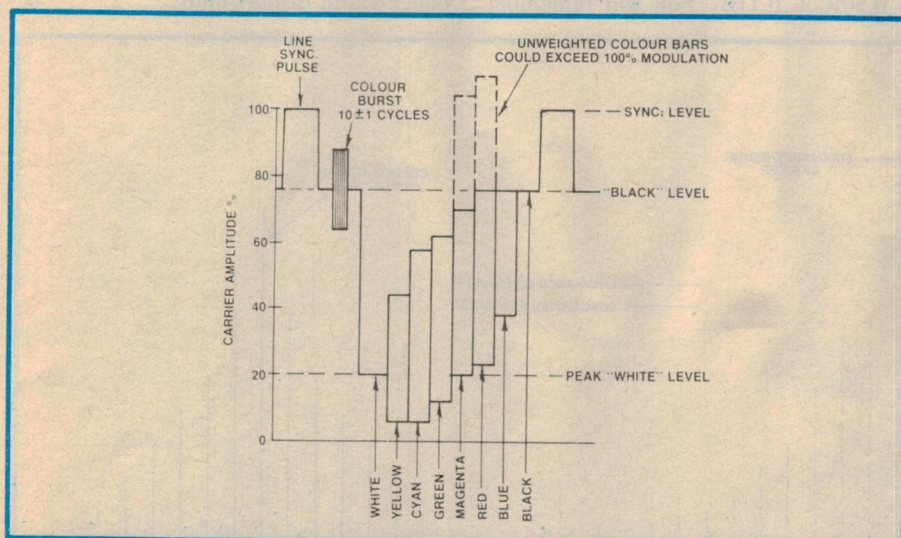

Fig. 8: the video signal waveform generated by a standard colour bar chart. Note the colour burst signal on the back porch of the line sync pulse.
Notice that the signal at output (1) is 0.877 multiplied by the (R-Y) signal, and the signal at output (2) is 0.493 multiplied by (B-Y). This "weighting" of the colour signals is necessary to prevent overloading the transmitter. Without weighting, the peak colour signals would exceed 100% modulation and cause distortion (Fig.8). The weighted (R-Y) signal now becomes the PAL "V" signal, and the (B-Y) the "U" signal.
To enable the TV's local oscillator to do this, 10 cycles of 4.43 MHz colour "burst" information are sent with each line of signal information. This burst sits on the back porch of the line synchronisation pulse. Fig. 8 shows one complete line of signal as the camera scans a standard colour bar chart.